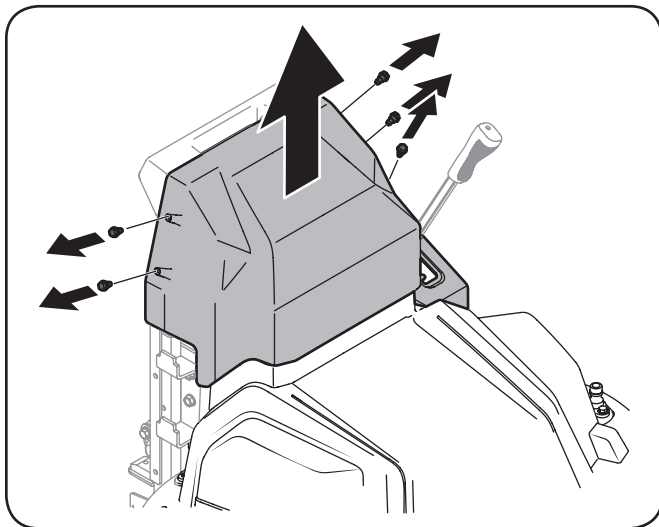

Figure 6-4
2. Remove the top belt cover by removing the five screws that secure it as shown in Figure 6-4.